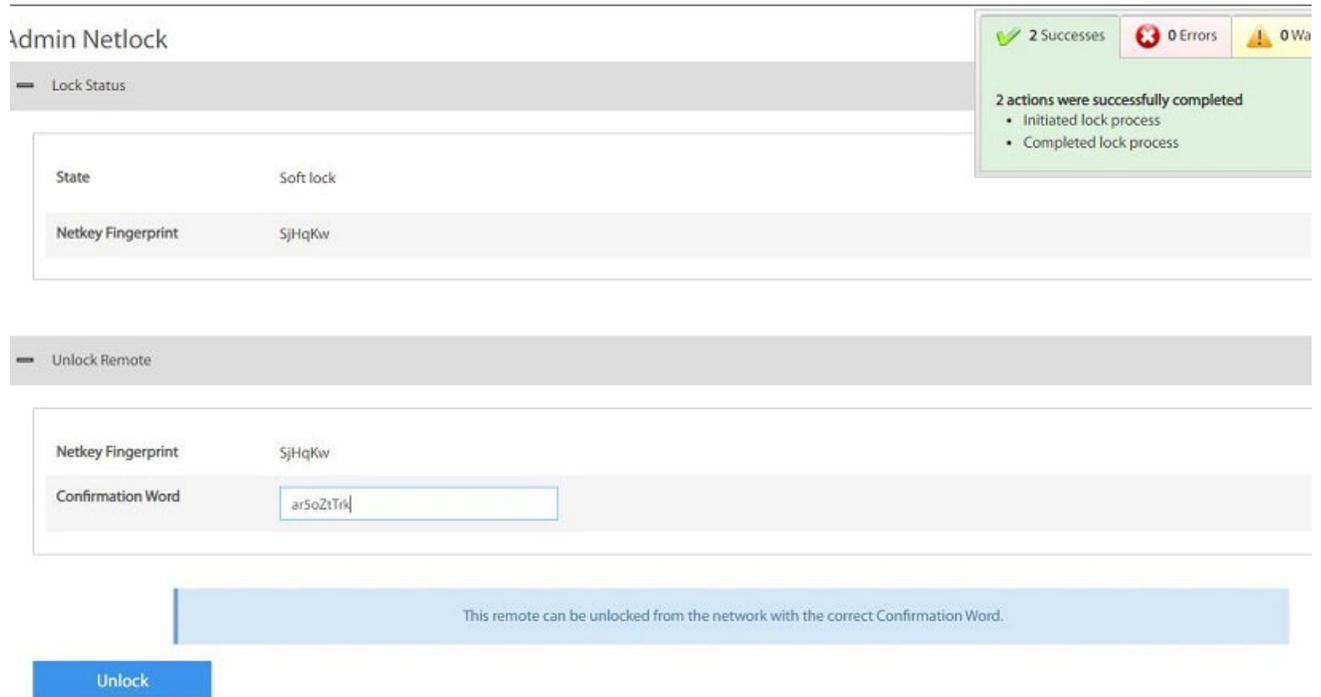

Figure B-7. Soft Locked Screen
3. Enter the **Confirmation Word** in the designated area (as noted during the locking of the remote) and press **Unlock**. See Figure B-7.